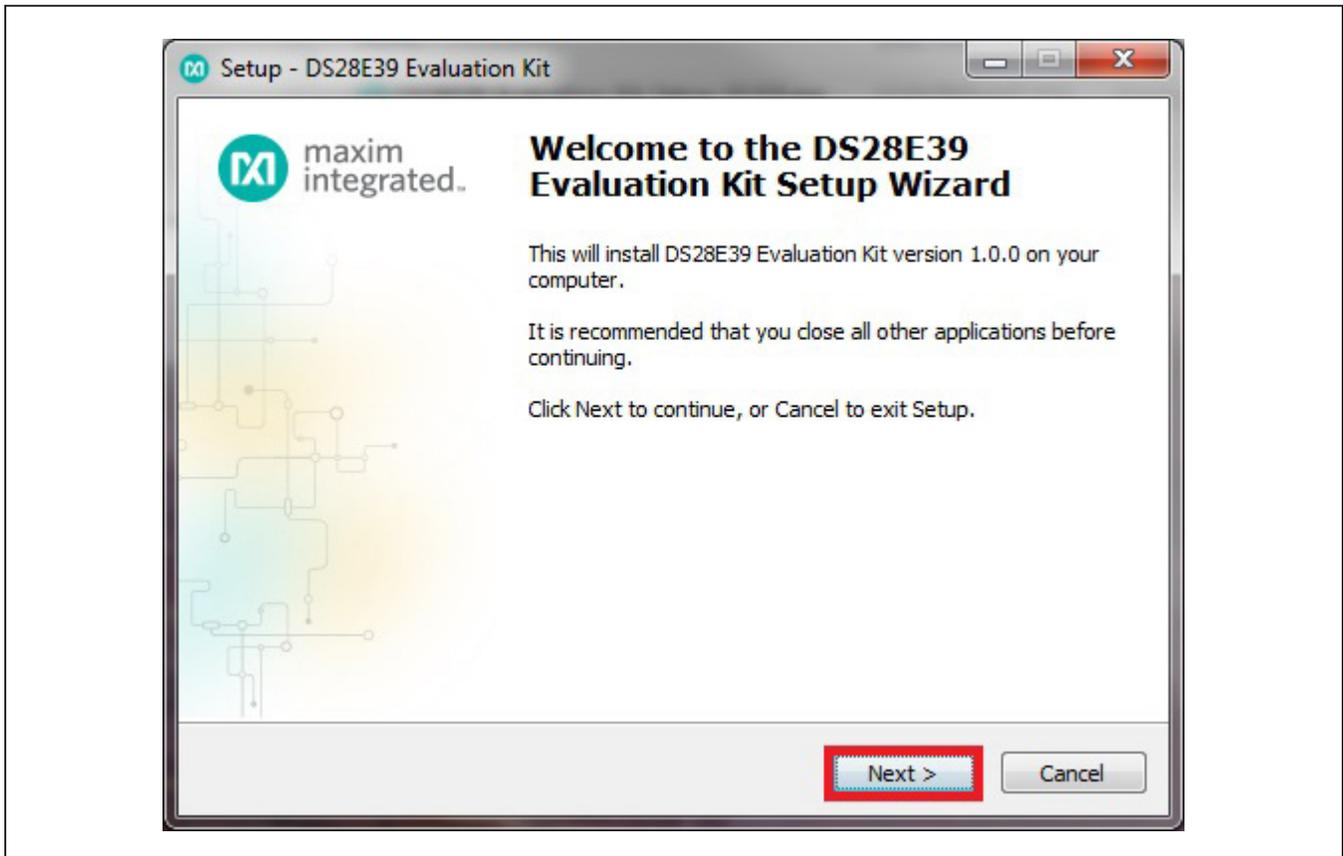

Figure 2. DS28E39 Setup Wizard
3) The setup wizard opens; click on **Next**, as shown in Figure 2.